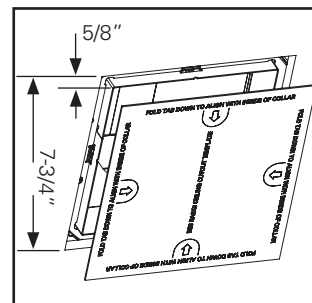
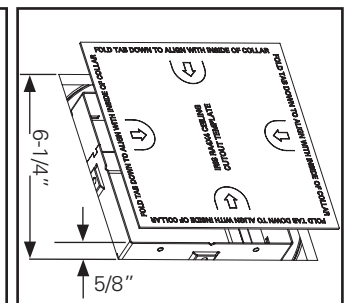

Figure 3.
Figure 4.
2. Using the template provided, cut around the collar so that there is a 5/8" gap between the collar and the ceiling – 7-3/4" overall for RA6X6 (Figure 3.); 6-1/4" overall for RA4X4 (Figure 4.). If needed, lower the collar by loosening the collar locking screws, and then hand-tighten the screws to secure the collar in the correct position